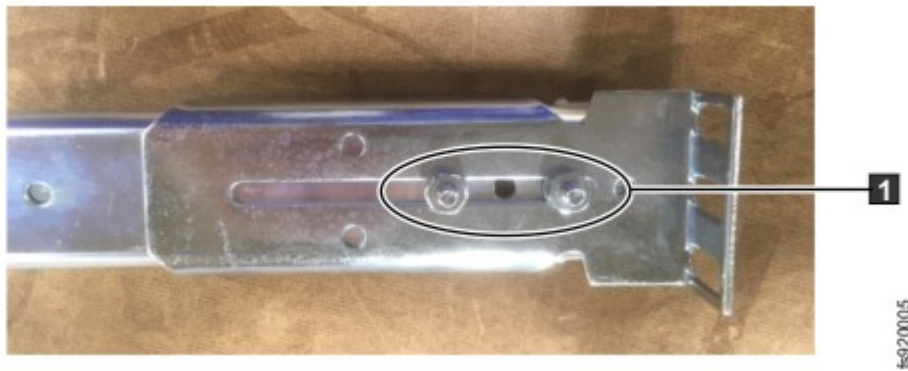

Figure 252. Attaching a bracket to an outer rail member
- d) Tighten the nuts and bolts on the mounting bracket of the outer rails, as shown in Figure 252 on page 338.